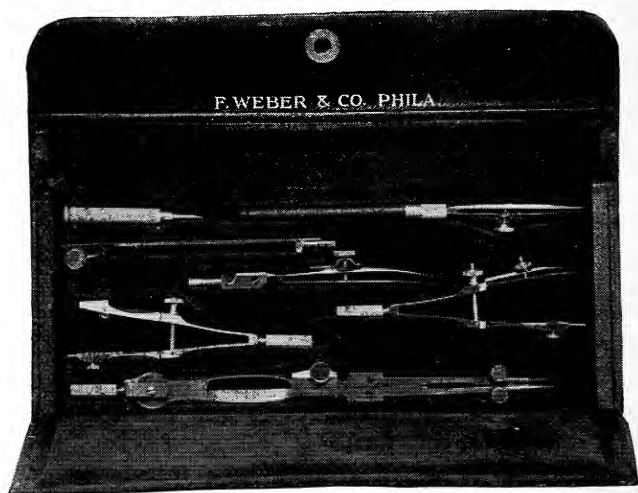

Fig. 1. Drawing Instruments.
- b. Set of drawing instruments in a case, Fig. 1, containing—